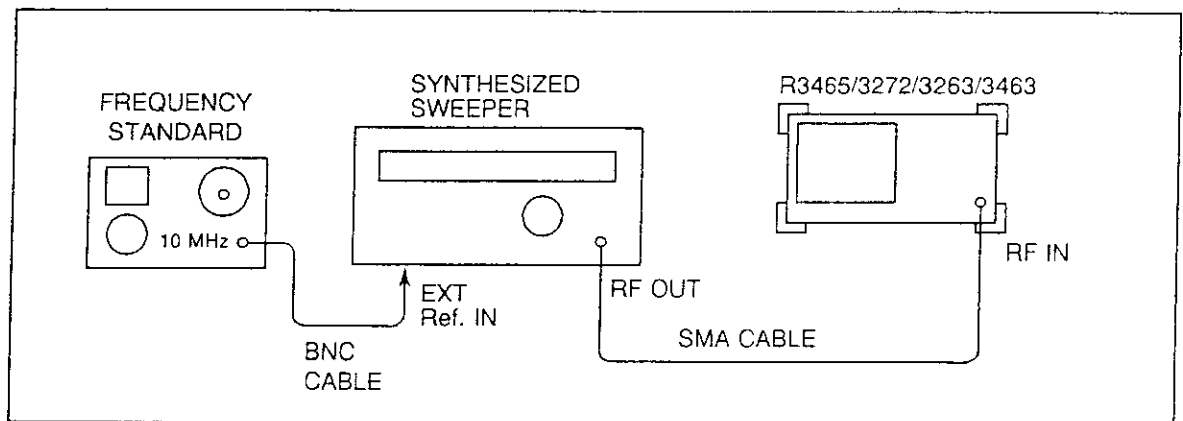

Figure 1-1 Frequency Readout and Frequency Counter Marker Accuracy Test Setup
(1) Connect the equipment as shown in Figure 1-1